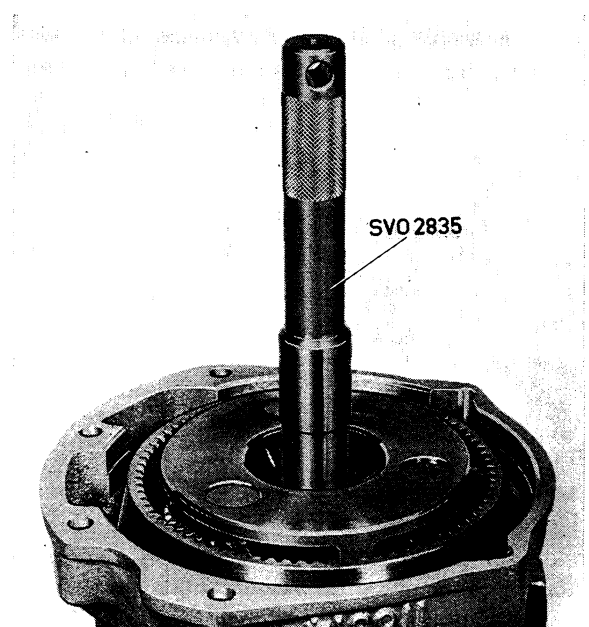

Fig. 4-48. Fitting planet gear
8. Place the planet carrier complete with planet gear in position on the output shaft. Guide up the splines into the planet carrier and uni-directional clutch with drift SVO 2835, Fig. 4-48.